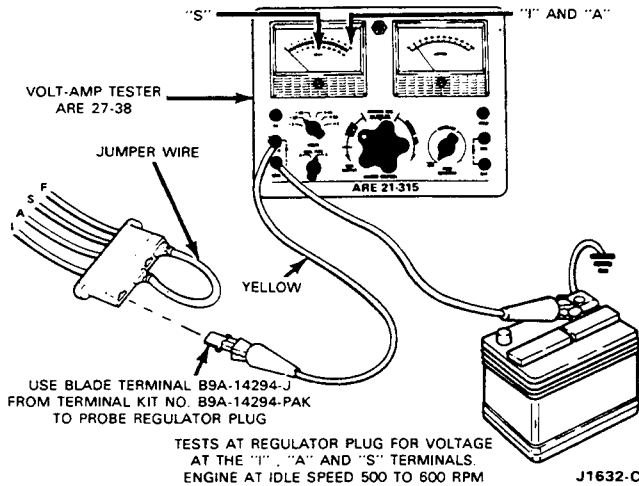

FIG. 10 Regulator Plug Voltage Tests
- If the voltmeter reading does not increase one volt above battery voltage, proceed to the next step before performing other tests, the field circuit (regulator plug to alternator) must be checked for a grounding condition. If the field circuit is grounded and the jumper wire is used as a check at the regulator wiring plug from the A to F terminals (Figure 10), excessive current will cause heat damage to the regulator wiring plug terminals and may burn the jumper wire (Fig. 10). Also, if the field circuit was grounded, the connector wire inside the regulator will be burned open and an under voltage condition will result.
- If the field circuit is satisfactory, disconnect the regulator wiring plug at the regulator and connect the jumper wire from the A to the F terminals on the regulator wiring plug (Fig. 10).
1. Connect the positive lead of the voltmeter to the S terminal of the regulator lead of the wiring plug (Fig. 10). Then, turn the ignition switch to the ON position. Do not start the engine.
2. With the engine idling, connect the positive lead of the voltmeter to the S terminal and then to the I terminal of the regulator wiring plug (Fig. 10). The voltage of the S circuit should read approximately 1/2 of the I circuit.